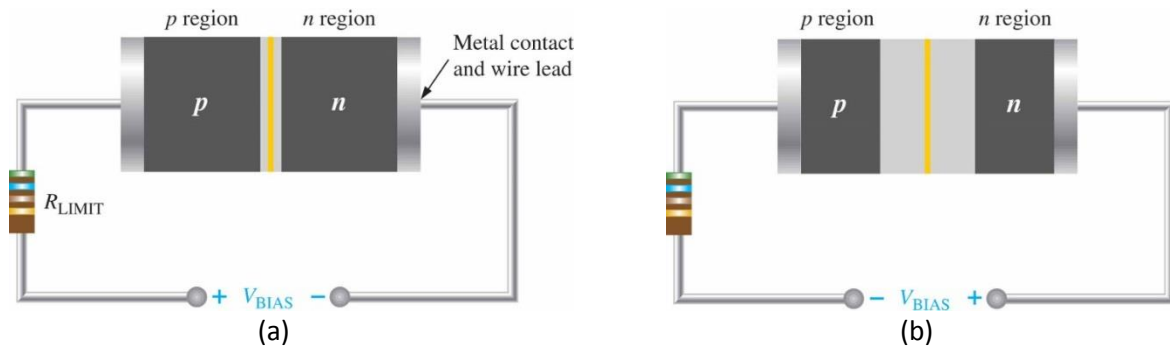

Figure 4: Diode is under forward bias (a) and reverse bias (b)
To bias a diode, a dc voltage should be applied across it. Forward bias is the condition that allows current through the p-n junction. External bias voltage (V_{bias}) is connected to the diode through a resistor (R) as shown in Figure 4(a). Positive terminal of the V_{BIAS} should be connected to the p side of the diode and the negative terminal should be connected to the n-side of the diode. This is one requirement for forward bias. Second requirement is that the magnitude of V_{BIAS} must be greater than the barrier potential. For a silicon diode, this is about 0.7 V.
Reverse bias is the condition that prevents the current through the diode. In reverse bias, positive terminal of the V_{BIAS} are connected to the n-side of the diode and the negative terminal are connected to the p-side of the diode as shown in Figure 4(b). Positive side of the bias voltage pulls the free electrons, which are majority carriers in the n-side, away from the p-n junction. As electron flow towards the positive terminal of the voltage source, additional positive ions are created and hence widening of the depletion region. This results that the current generated by the majority carriers ceases except very small reverse current due to the minority carriers.